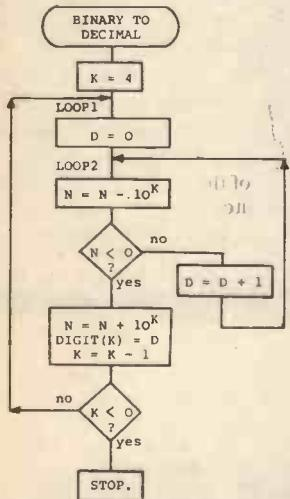

Fig. 1. Flowchart for a routine to convert a binary number N into decimal.
cessive locations, one decimal digit per location. The routine, as given in many programming handbooks, is represented by the flowchart in Fig. 1. The variable N is the original binary number, and the five digits of the result are DIGIT(4) to DIGIT(0); D is a temporary counter for the digits.
It is said that in most programs 90 per cent of the time is spent executing 10 per cent of the instructions, and the first step in optimising the speed of a program is to identify the time-consuming 10 per cent, which is normally the innermost loop of the program. The next step is to make this section of the program execute as fast as possible. The innermost loop in the flowchart of Fig. 1 begins at LOOP 2, and consists of a double-byte subtraction, a test, and an increment. This loop is executed once for each power of ten subtracted; in other words, the number of iterations is the sum of the decimal digits of the number being converted. The slowest number will be 59.999, needing $5+9+9+9+9$ or 41 iterations.
An immediate improvement can be made by realising that the last digit is just the remainder after calculating the first four digits, so there is no need to repeatedly subtract 1 from it. This futile calculation can be removed from the program, reducing the number of iterations to 32. A second, less obvious, saving is gained by noticing that to implement the inner loop of Fig. 1, two branch (or jump)